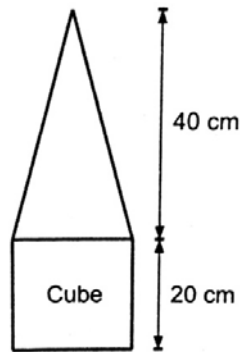

Fig. No.4
- d) Calculate center of gravity of solid assembly from apex of cone as shown in the fig. no.4.